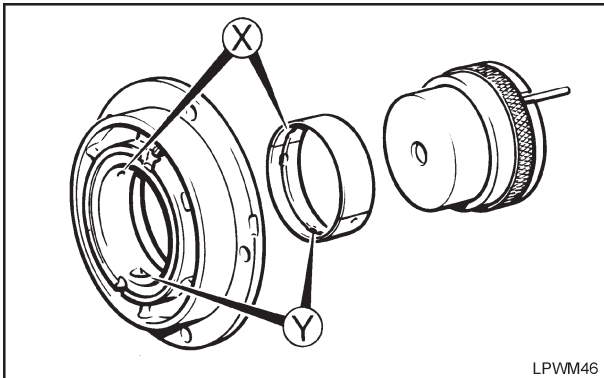

Figure 2.43.2 Main Bearing Housing Oil Hole
On current housings care must be taken to align the spigot with the inner oil hole; see (X) in 'Figure 2.43.2'.